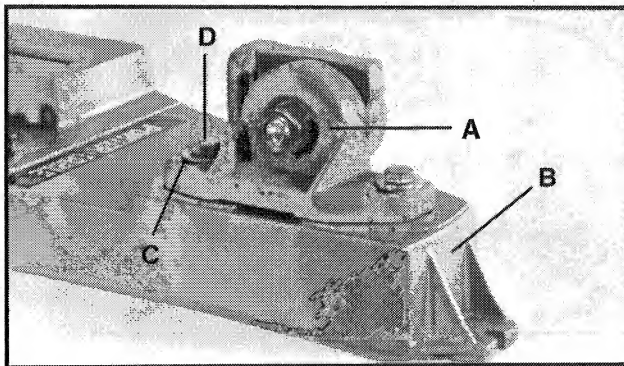

Fig. 2
1. Set the hinge assembly (A) on base (B) Fig. 2, so that the center of the elongated holes in the hinge assembly mounting bracket are over the center of the elongated holes in the base.
2. Install the two $\frac{3}{8}$ " I.D. x 1" O.D. washers (C) Fig. 2, on the two $\frac{3}{8}$ "-16 x $1\frac{1}{2}$ " long bolts (D) and insert the bolts through hinge assembly (A) and base (B), as shown. Thread the bolts into the two $\frac{3}{8}$ "-16 square nuts which are to be located in grooves in underside of base (B) beneath the elongated holes and snug up bolts (D) Fig. 2.